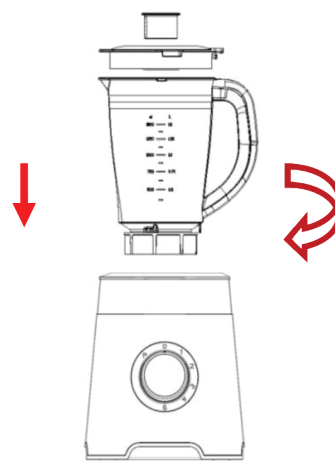

Fig.5
- 3) Finally, place the assembled jar onto the motor unit by aligning the strip on the assembled jar bottom. (See Fig.5)